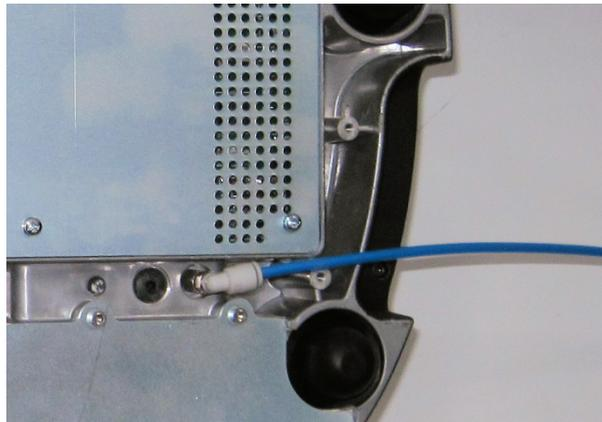

Figure 89 Tubing connected to instrument purge inlet port
10. Push the end of one piece of tubing onto the right-angled connector as shown in Figure 89.